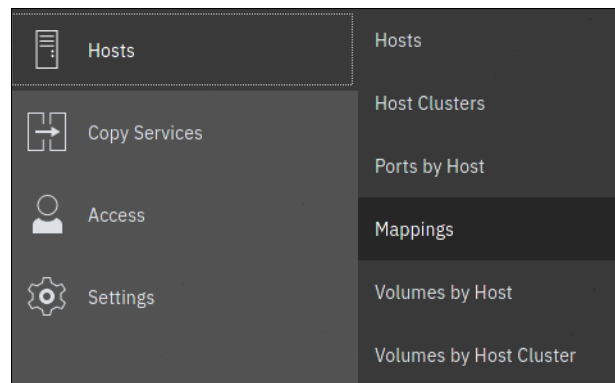

Figure 6-61 Accessing the Hosts Mapping view
4. After the task completes, the wizard returns to the Volumes window. You can list the volumes that are mapped to the host by selecting **Hosts** → **Mappings**, as shown in Figure 6-61.